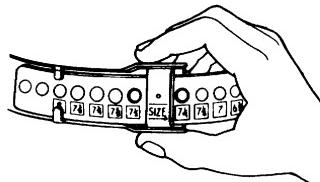

Figure 3
2. Squeeze the buckle to disengage sizing mechanism, and place headband suspension on your head. Continue squeezing buckle while pulling headband suspension down over your head. Headband suspension automatically adjusts to your size and locks when you release your grip (see Figure 3). Headband suspension should feel comfortable and snug.